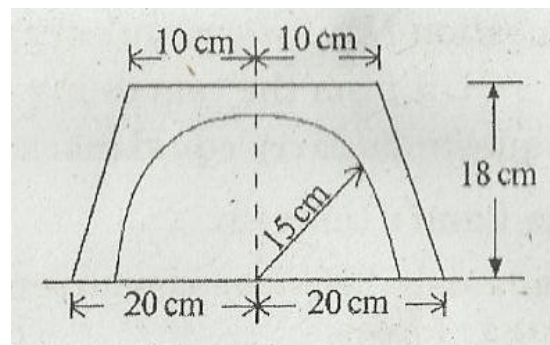

Figure 2
- (b) Determine the position of the centre of gravity of the Plane figure 2 shown below